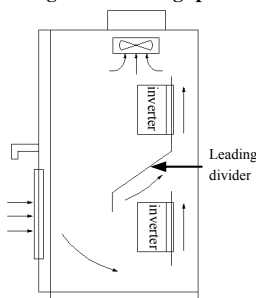

Fig. 3-2 Mounting of multiple inverters
- (3) When install multiple inverters up and down, must apply leading divider between them, see fig. 3-2.